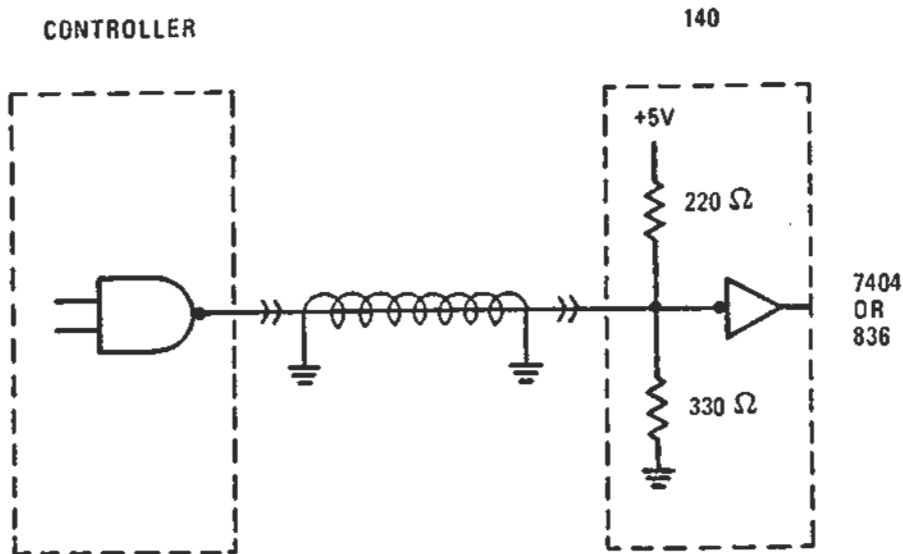

FIGURE 12. RECEIVER SCHEMATIC
**Receivers-**Figure 12 depicts typical interface receivers. All receivers require termination resistors and are either "7404" TTL inverters or "836" DTL inverters. Controller drivers must be capable of sinking 25 milliamps in the low state.